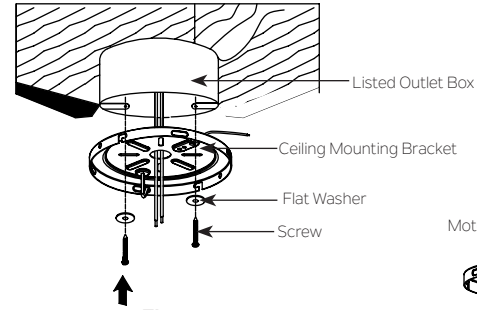

Fig. 5
Step 2. Before attaching fan to outlet box (not included), ensure the outlet box is securely fastened to at least two points to a structural ceiling member (a loose box will cause the fan to wobble). Pass the 120 volt supply wires from the ceiling outlet box through the center of the ceiling mounting bracket. Install mounting bracket to outlet box in ceiling using the screws and washers included with the outlet box. (Fig. 5)